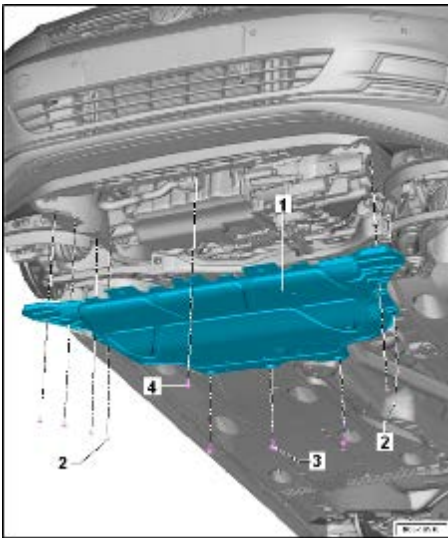

Fig 1
- Remove the underbody noise insulation <1> (Fig 1).